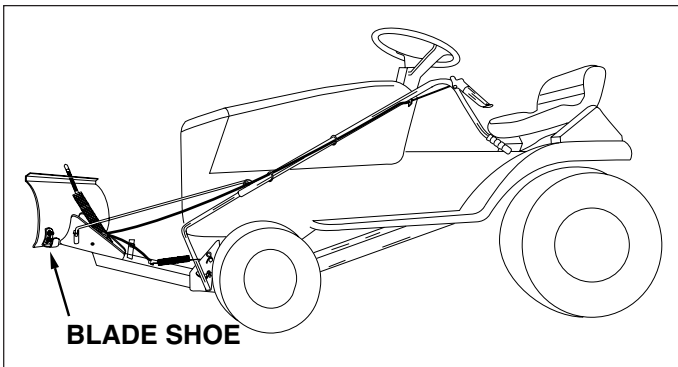

FIGURE 24
- Blade shoes on ends of blade may be raised for close work on smooth surfaces or lowered to raise the blade to work on rough or uneven areas. Make sure both shoes are set evenly and nuts are tightened securely. See figure 24.